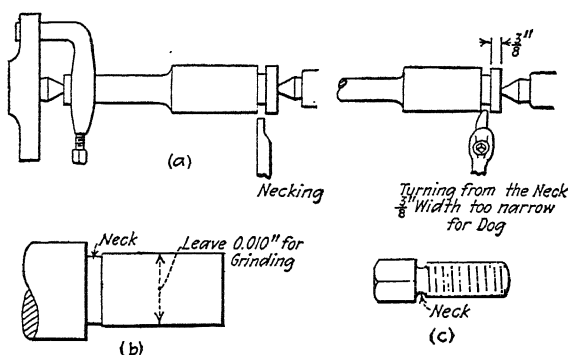

FIG. 98.
**118. Necking** (Fig. 98).—Occasionally it is desirable when turning shouldered work, especially when roughing, to cut a groove or "neck" of nearly the correct depth and turn either to the groove or from the groove depending on which end of the piece it is most convenient to place the dog.
Fig. 98) so that the grinding wheel will not have to be fed close to the shoulder. If a thread is to be cut to a shoulder it usually is considered better to cut a neck for the thread tool to run into (c, Fig. 98). The necking tool may be round nosed or square nosed, as desired.